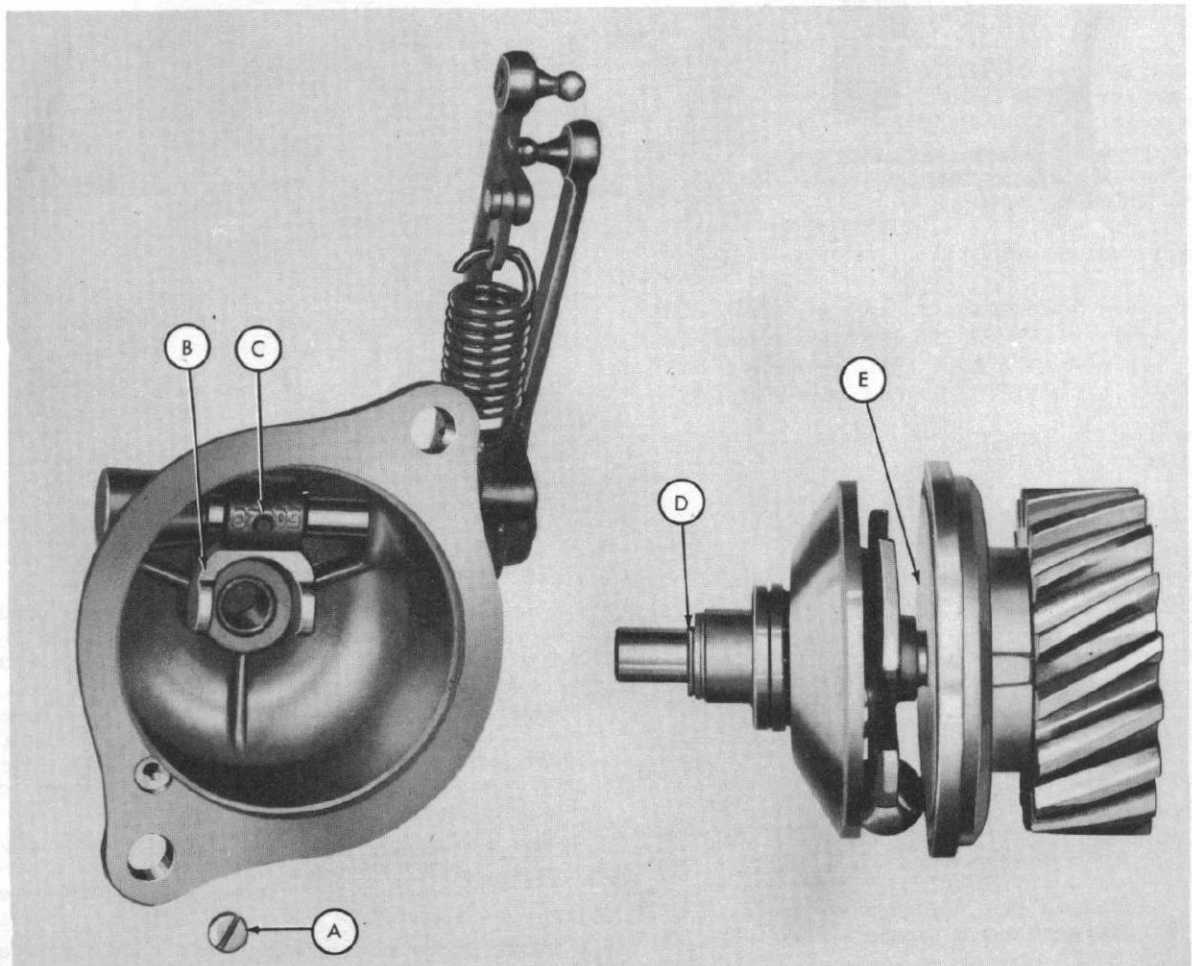

Fig. 1
Step 1—Remove the base screw (A-Figure 1).
Step 2—Remove the fly ball unit, the shaft, and the driven gear assembly (E-Figure 1) as a unit.
Step 3—Remove the spring clip (D-Figure 1). Disassemble the shaft and the fly ball unit.
- b. Drive the pin (C-Figure 1) out of the lever shaft and fork.
- c. Remove the shaft and lift out the fork (B-Figure 1).